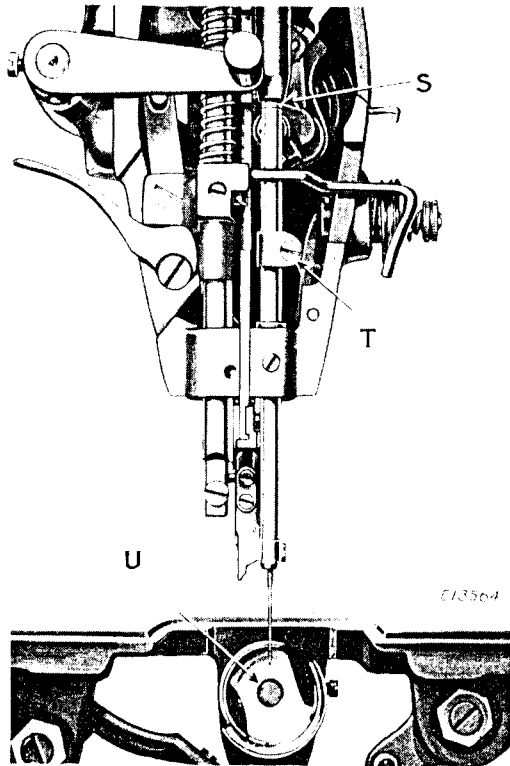
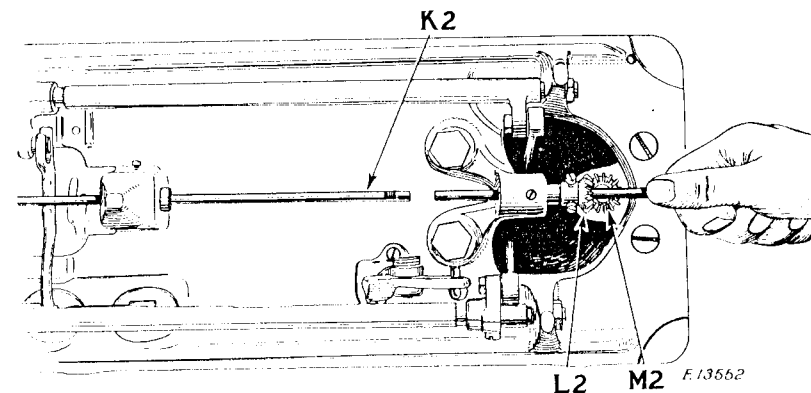

Fig.21
Fig. 26 Removing and Replacing Sewing Hook Shaft
The needle bar, which is in the machine when shipped from the factory, has two timing marks near its upper end. Rotate the balance wheel until the needle bar moves down to its lowest position. The UPPER TIMING MARK on the needle bar should then be centered with the lower end of the needle bar bushing, as shown at (S) in Fig.21. In case the needle bar is not set at the correct height, loosen screw (T, Fig.21) and move the needle bar up or down until the UPPER TIMING MARK is centered with the lower end of the needle bar bushing, as shown at (S, Fig.21), then securely tighten screw (T).
Before removing the hook shaft (K2, Fig. 26) from the machine, the gears (L2 and M2, Fig. 26) should be marked with chalk or red pencil on one of the teeth of the gear (L2) and the space of the gear (M2) in which the marked tooth meshes. This is important, as the gears may become dislodged when removing the hook shaft, and the marks will enable you to retain the original relative positions of the gears.
To remove the hook shaft, loosen the two set screws in the gear (L2, Fig. 26), then insert the new hook shaft into the gear
Fig. 26. By removing the old shaft in this manner, the relative positions of the gears (L2 and M2) will not be disturbed. When placing the new shaft in position in the machine, see that the flat portion near one end of the shaft is at the right so that one of the set screws in the gear (L2, Fig. 26) will bear against it when the gear is fastened in position on the shaft. The shaft should be set so that its left end is flush with the body of the sewing hook as shown at U, in Fig. 21.